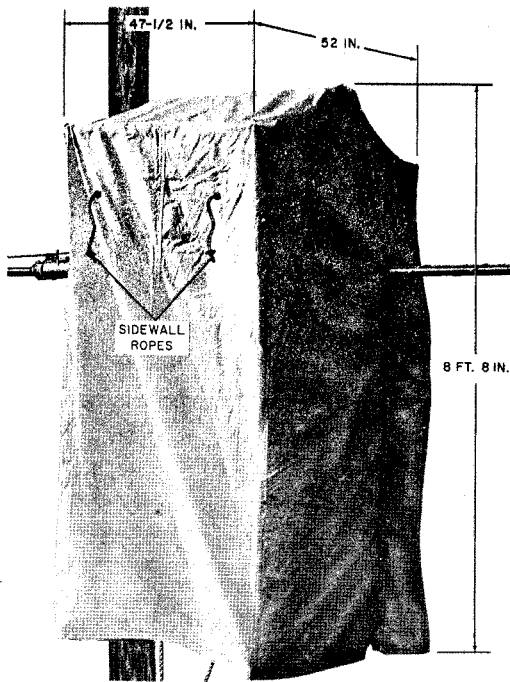

Fig. 8 — Superseded F Aerial Tent
9.01 The superseded F Aerial Tent (Fig. 8) is similar to the H Aerial Tent and can conveniently be used in the same applications except where there are two cables placed on opposite sides of a pole.